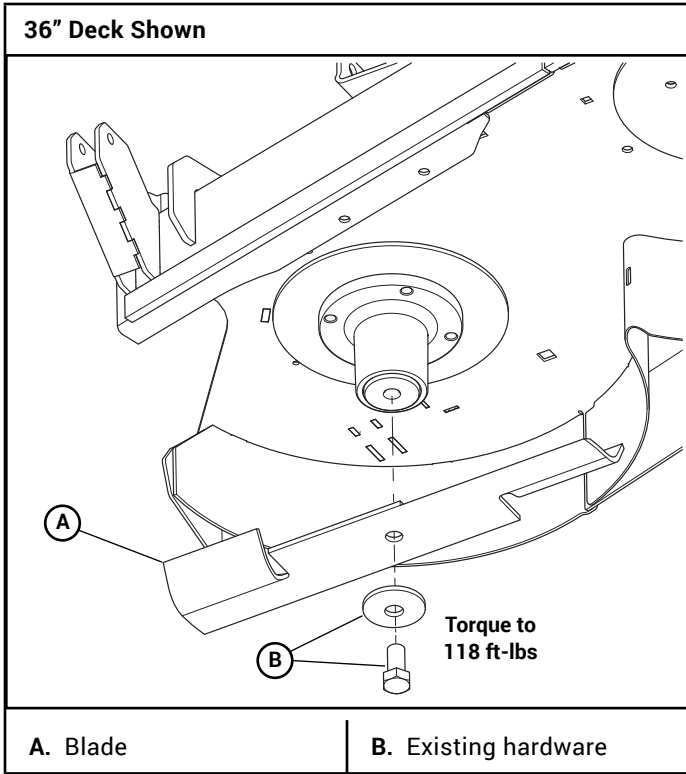

Figure 3-1
3. Remove the right side blade and replace it with the new blade. The catcher is provided with one blade for each deck size. Use the appropriate blade as indicated by the label on the blade and discard the other blades. Figure 3-1 & Figure 3-2